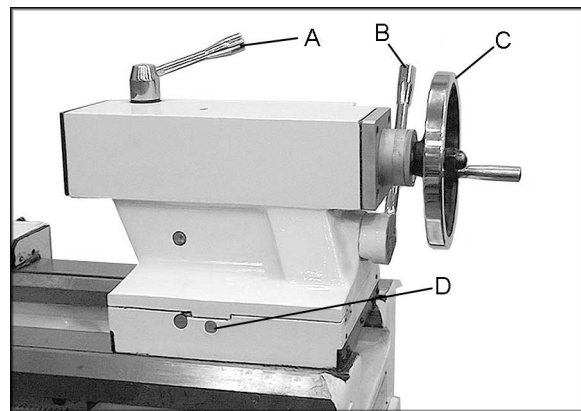

Figure 14
17. **Tailstock Quill Clamping Lever (A, Figure 14):** Located on the tailstock. Rotate clockwise to lock the sleeve. Rotate counterclockwise to unlock.
18. **Tailstock Clamping Lever (B, Figure 14):** Lift up to lock. Push down to unlock. If the tailstock has a heavy load, tighten the hexagon head at right side of the tailstock for auxiliary locking.
19. **Tailstock Quill Traverse Handwheel (C, Figure 14):** Rotate clockwise to advance the quill and counterclockwise to retract it.
20. **Tailstock Off-Set Adjustment (D, Figure 14):** Two hex socket cap screws located on the tailstock base are used to off-set the tailstock for cutting tapers. Loosening one screw while tightening the other will off-set the tailstock. Do not clamp the tailstock lock handle when adjusting.